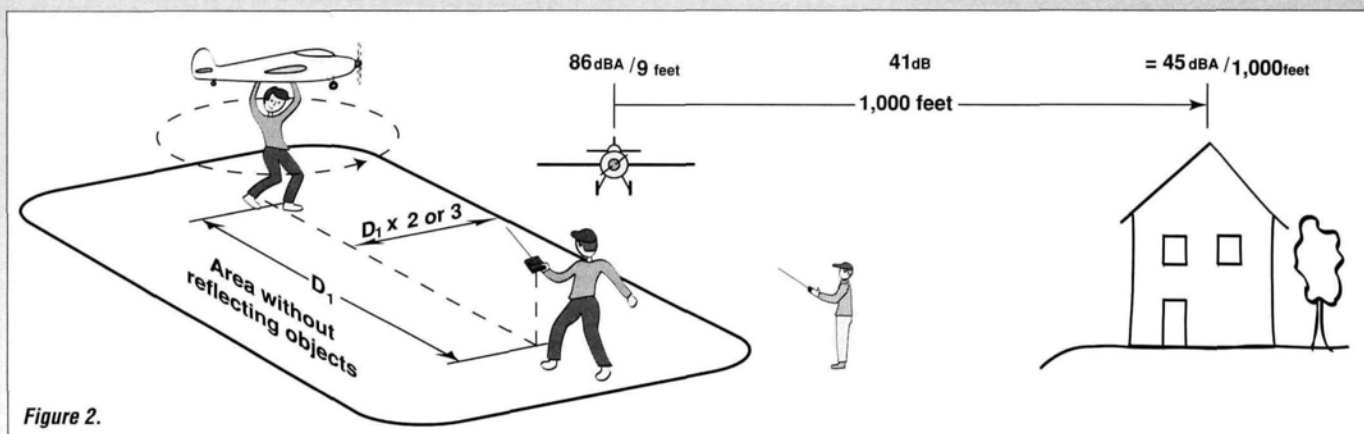

Figure 2.
• **Are you annoying the neighbors?** Look at Figure 2. Measure the distance from the air space in which you fly your models to the nearest house. Let's say that it's 1,000 feet (D2) and that you measure the sound from your models at 9 feet (D1).
To check the sound level at your field with the aim that sound at the nearest house should not exceed 45dBA, this method is completely useless; there are too many possibilities for error. At our field, we tested different methods and came up with the method shown in Figure 2. One person holds the model as high as possible over his head and rotates it slowly 360 degrees with the throttle fully open. The dB meter is hand-held at shoulder height. The person measuring should wear soft clothing to avoid reflecting sound and stand at 90 degrees to the measuring line—again, to avoid reflecting sound from the chest. The test range should be permanently marked and in a quiet corner of the field.